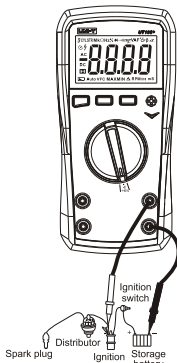

Figure 9
It was very important to measure the dwell angle of cutout switch of ignition system. The measurement of dwell angle refers to the duration that the cutout switch keeps in off state when the cam rotates. Nowadays, automobiles use electronic ignition, the adjustment of dwell angle is not needed. The measurement of dwell angle can also be applied in hybrid-control solenoid. (i.e. GM feedback carburetors). Figure 9 shows the measurement of dwell angle of engine.
- 2) Connect the red test lead to “V” terminal, and black to “COM”. Connect the test end as figure 9.